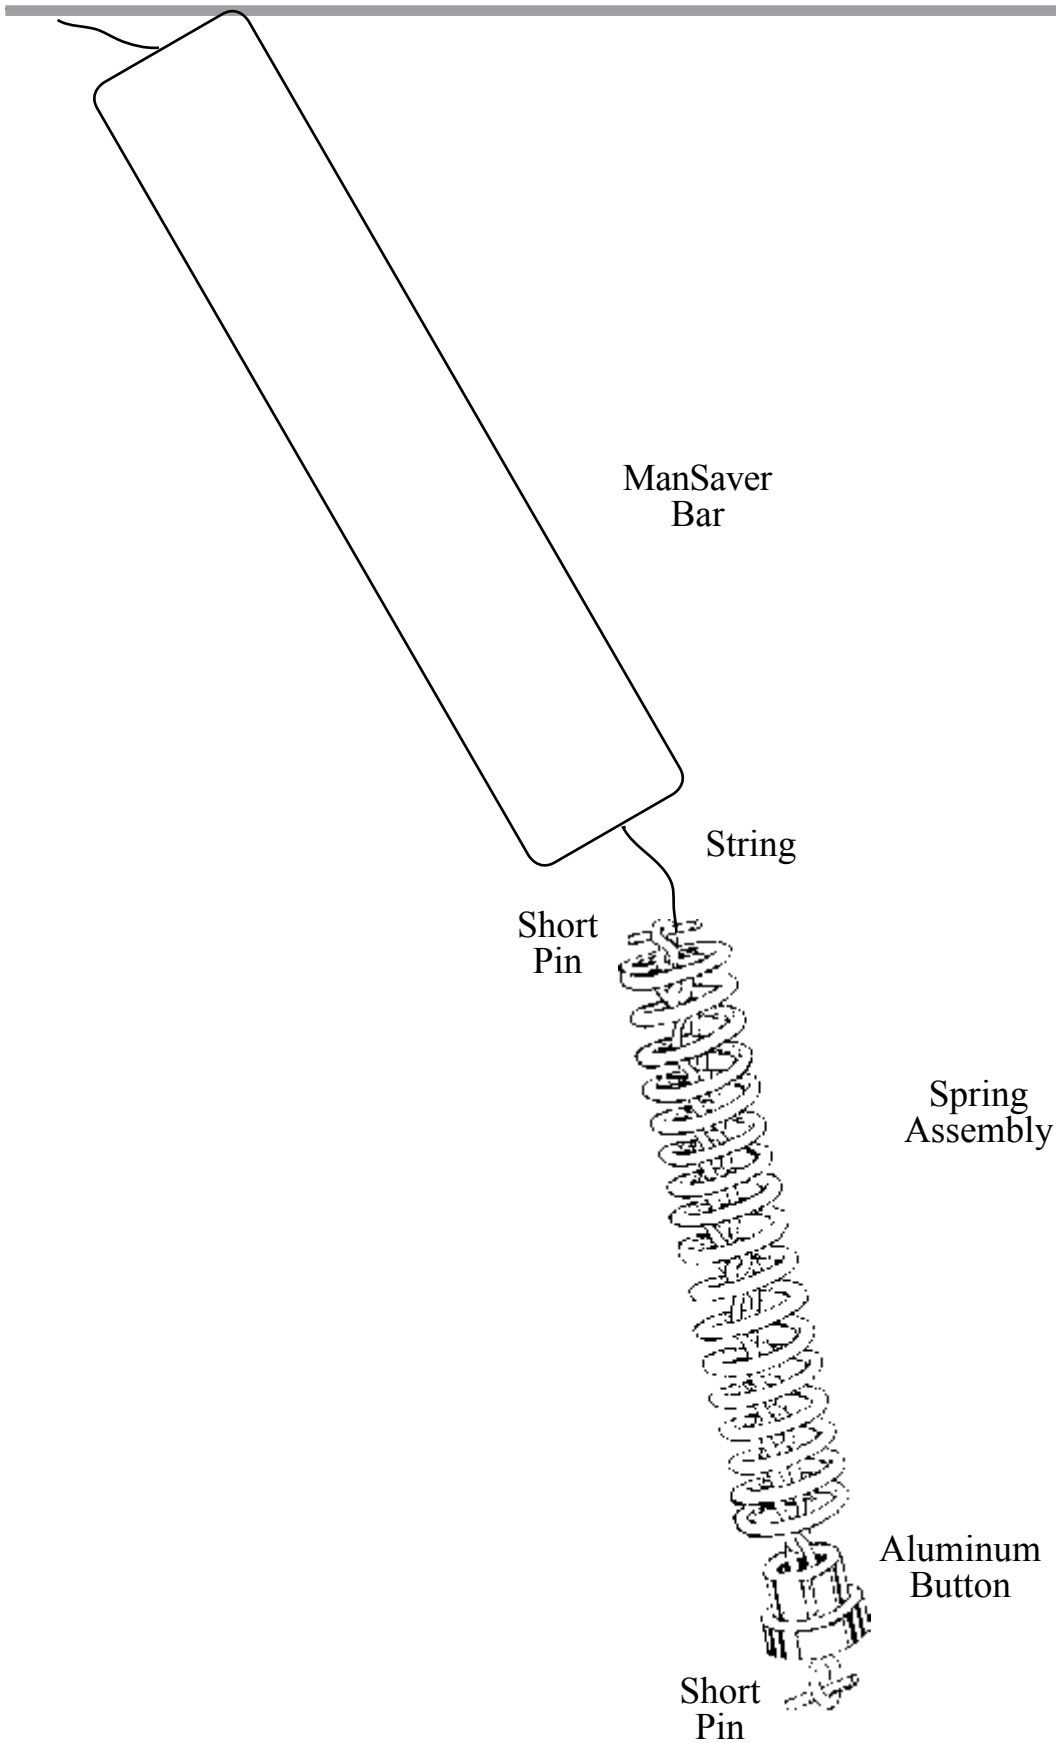

Figure 4. Spring Replacement
3. Insert a long piece of string through the knuckle and the bar so that it hangs out both ends. (Refer to figure 4.)